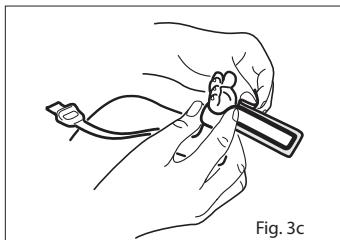

Fig. 3c
- Refer to Fig. 3c. Wrap the adhesive/foam wrap around the lateral aspect of the foot (or hand) and ensure that the emitter window (*) aligns directly opposite of the detector. Be careful to maintain proper alignment of the detector and emitter windows while attaching adhesive/foam wrap to secure the sensor.